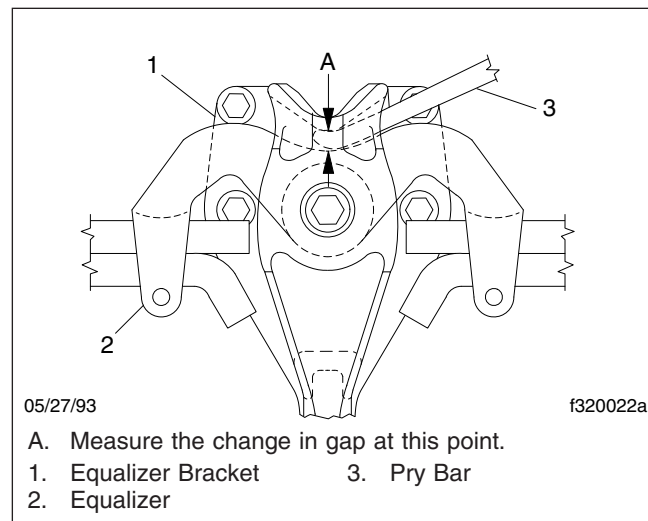

Fig. 2, Side View of the Equalizer
- Block the frame up enough to take the weight of the chassis off of the springs. Attempt to move the equalizer up and down, by using a pry bar between the top of the equalizer and the top of the equalizer bracket. Apply hand-pressure only. See Fig. 2. If movement at the center of the equalizer exceeds 1/8 inch (3 mm), replace the equalizer bushings.